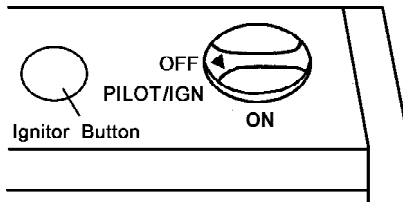

Figure 16 - Control Knob In The OFF Position (kwp110)
3. Push in gas control knob slightly and turn clockwise  to the OFF position. (see Figures 16 & 17)
4. Wait five (5) minutes to clear out any air. Then smell for gas, including near the floor. If you smell gas, STOP! Follow "B" in the safety information on the side of the heater. If you do not smell gas, go to the next step.
5. Push in gas control knob slightly and turn counterclockwise  to "PILOT/IGN" and depress for five(5) seconds